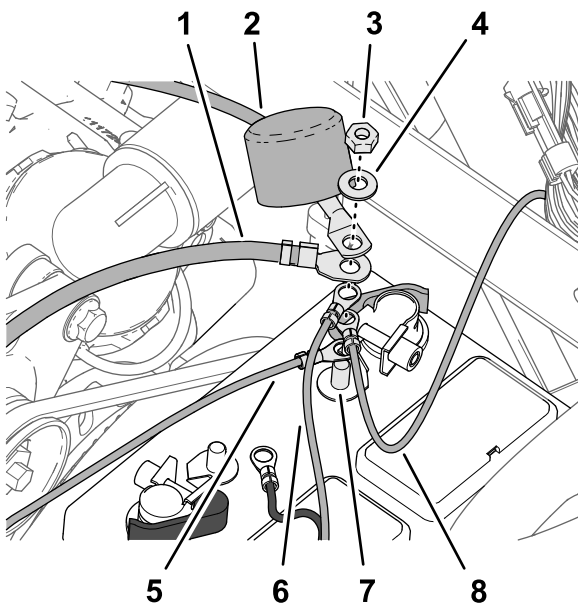

Figure 211
2. Assemble the following wire and cable terminals onto the threaded post of the positive battery terminal (Figure 211) in the following order:
- Align the insulator cover of the positive battery cable to the starter over the threaded post (Figure 211).